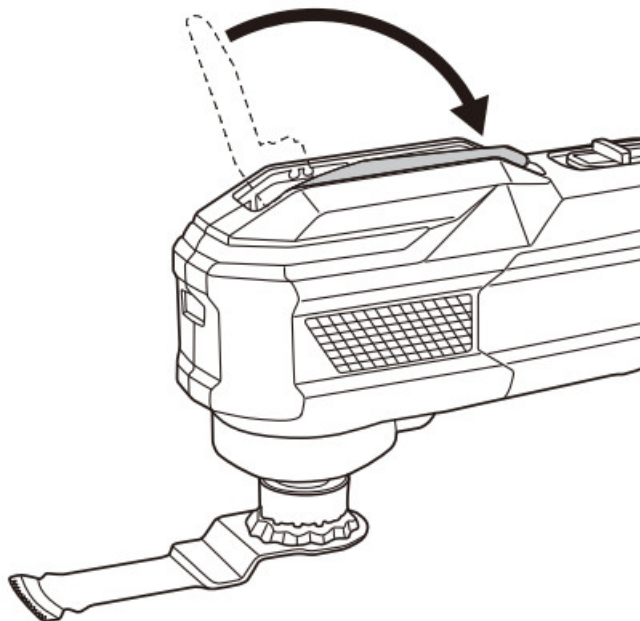

Fig. 11
(5) Push down the lever. (Fig. 11)